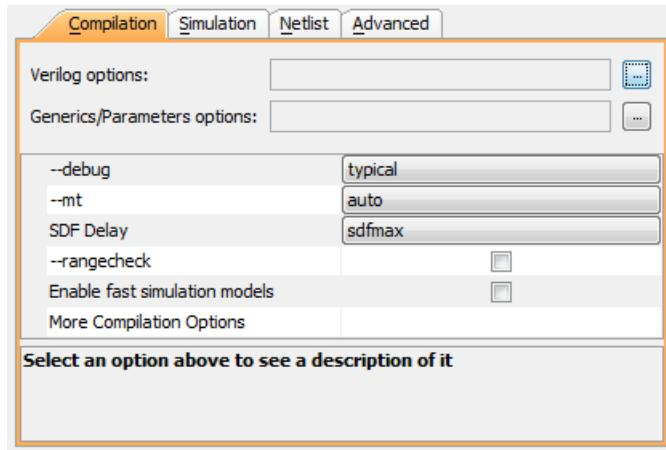

Figure 3-4: Project Settings, Simulation Dialog Box, Compilation Tab
- `-mt`: Is set to `auto` by default. This option lets you specify the number of sub-compilation job to run in parallel. When you select the option, a drop-down menu displays the following selections, as shown Figure 3-4, above: `off`, `2`, `4`, `8`, `16`, and `32`.